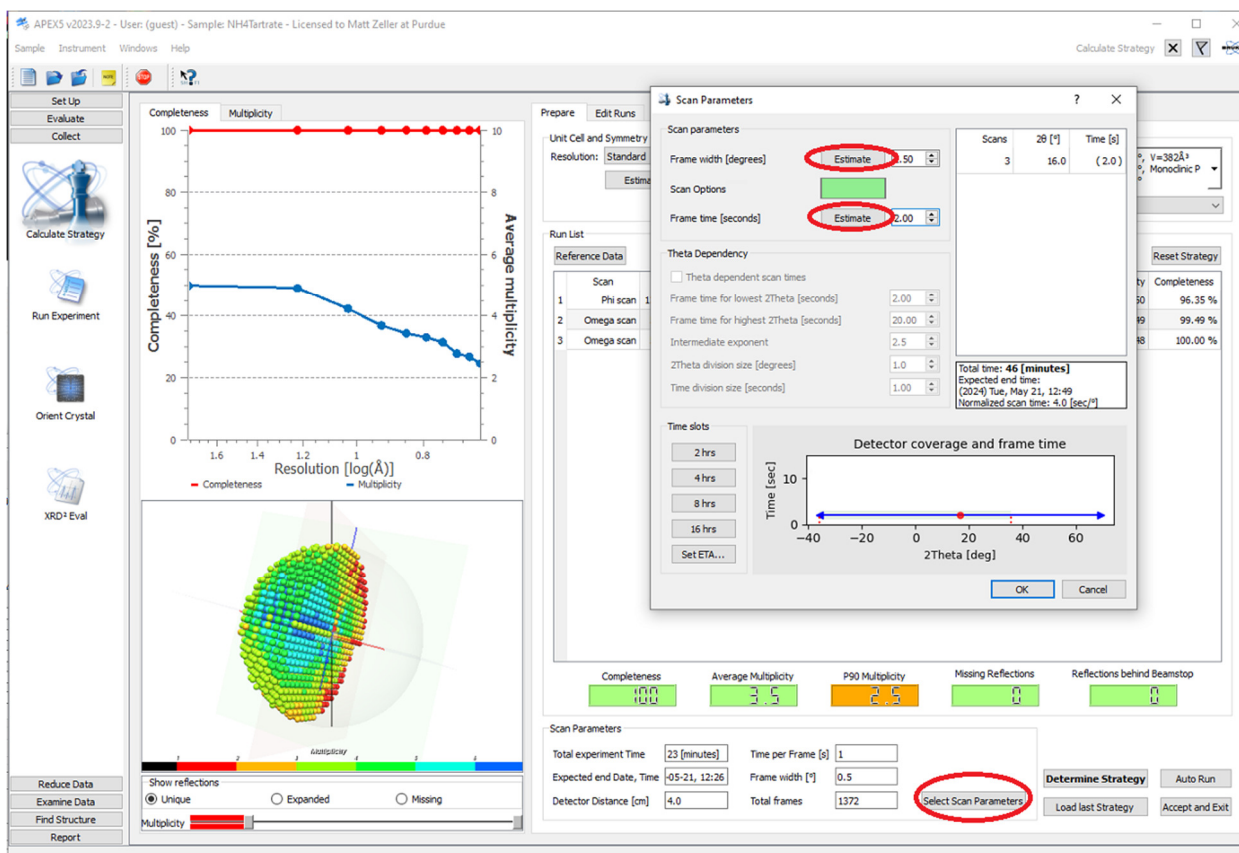

Figure 18, Strategy Window with Scan Parameters sub-window
- The Scan Parameters box will now be populated. Click the Select Scan Parameters button. In the popup window, click the two Estimate buttons for “Frame width” and “Frame time” to obtain (usually reasonable) suggested values (Fig. 18).